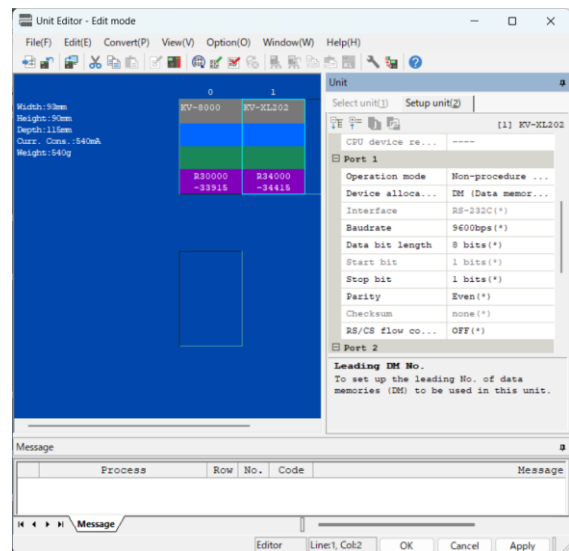

Fig 7 Configuration of KV-XL202
- ⑦ Unit Editor: Select KV-XL202 and Change to the following settings. (Fig 7)